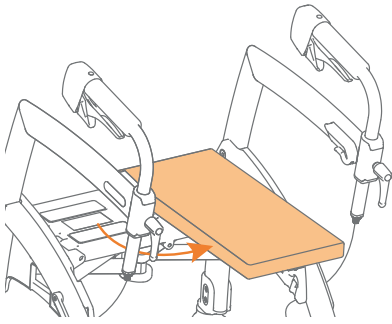

Figure 17: Place the seat cushion crosswise.
- c. Pull the seat cushion away, turn it 90 degrees and place it horizontally on the side of the red handle (**Figure 17**).